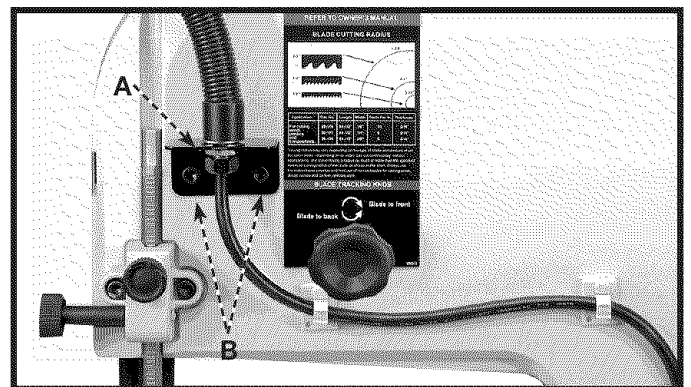

Fig. 18
- Fasten the lamp bracket (A) Fig. 18 to the top cover of the machine, using two M6 x 20mm socket head nylock screws (B) and M6 lockwashers. Tighten securely using the 5mm hex wrench provided.